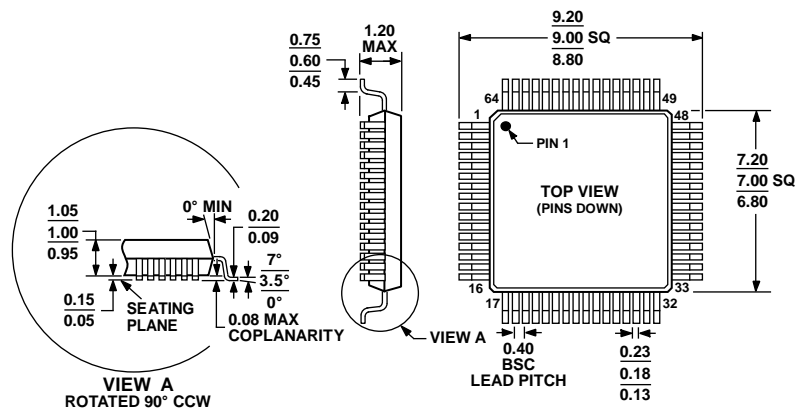

Figure 61. Arrangement of Signal Tracks
- Use wide tracks to minimize inductance and reduce noise pickup. A 10 mil track minimum width and spacing is recommended, as shown in Figure 61.